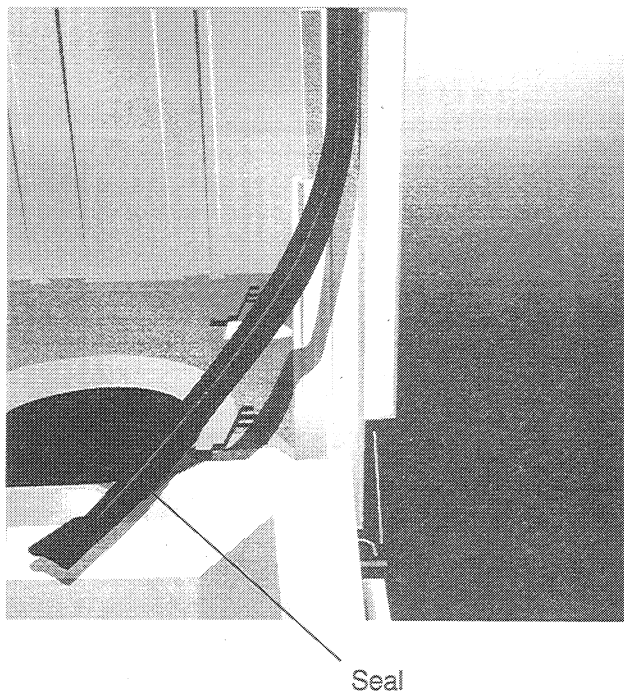

Figure 25
2. With a flatbladed screwdriver, carefully remove tub seal from recessed area around tub. (See Figure 25.)